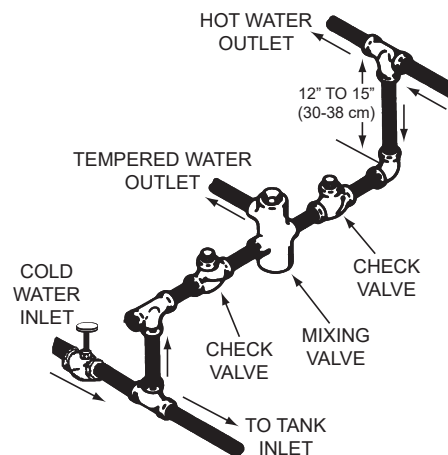

Figure 10. Mixing Valve
*In addition to using the lowest possible temperature setting that satisfies your hot water needs, a means such as a mixing valve, for example, can be used at the water heater or at the hot water taps used by these people to reduce the water temperature. See Figure 10.*